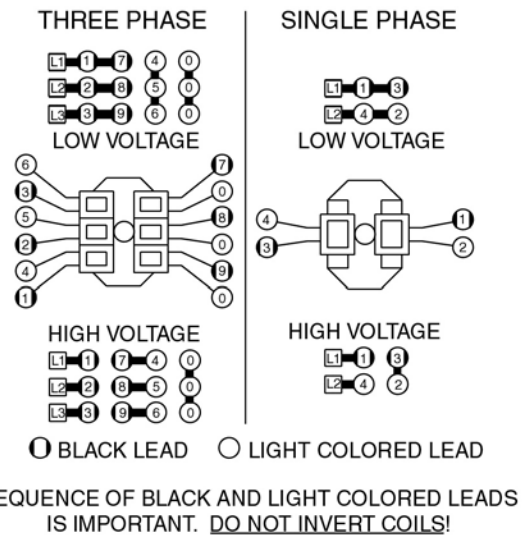
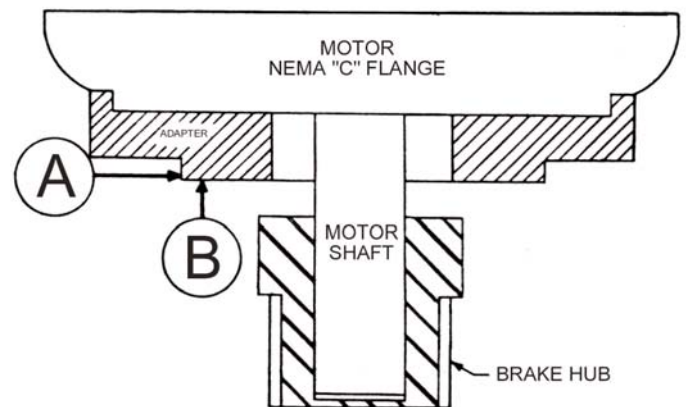

Figure 2. Wiring Connections
Figure 3. Adapter Installation
INSTALLATION OF BRAKE ON MOTOR ENDSHIELD (See Figures 2, 3 and Table 4)
1. Remove hub (14) from brake and mount hub with key (not supplied by Dings) on motor shaft per dimension "BC" shown in Figure 2. Be sure that hub used is item supplied by Dings for hazardous location applications. Tighten both set screws to 8-10 lb. ft. torque.
2. Remove four cover bolts (21) and tap cover with soft mallet. Remove cover (1). Do not operate the manual release (17) until brake is installed.
3. Inspect motor "C" flange and remove any nicks or burrs. This will assure a precision fit of brake to motor flange. Slide brake over hub (14), engaging teeth of rotating disc (10) and hub.
4. Install four mounting bolts (15) and tighten. Install four locking set screws (16) and tighten to 40 lb. ft. torque. This seals flame path around mounting bolts. Check rotation of hub to make certain it does not rub in bracket (13). Diametrical clearance or hub outside diameter to bracket bore shall not exceed .024".
5. Connect brake leads to power as shown in Figure 3. All wiring should be positioned to prevent pinching or chafing and all connections well taped to prevent grounding.
6. Replace cover (1). This may be done more easily by threading a 3/8" dia. by 5" long stud (threaded one end 3/8-16NC) into one cover bolt hole in magnet plate assembly (3) as guide. Slide cover into position using stud as a guide and tap with soft mallet until cover seats. Use care in assembly. Insert 3 cover bolts (21) and finger tighten. Remove guide stud and insert fourth cover bolt. Draw up all bolts evenly and tighten until spring washer (22) is fully compressed. A loose or missing bolt will render the brake unsafe for operation in hazardous locations.
8. Check alignment of adapter. Clamp dial indicator to brake hub (position A) and measure pilot eccentricity. This must not exceed .006" total indicator reading for a full revolution of hub. Reposition dial indicator (position B) and check adapter face runout which must not exceed .006" total indicator reading a full revolution of the shaft. Remove hub (14) from brake and mount hub with key (not supplied by Dings) on motor shaft per dimension shown in Figure 2. Tighten both setscrews to 8-10 lb. ft. torque. Complete mounting of brake per paragraphs 2 through 6.
WEAR ADJUSTMENT (See Figure 2 & Table 4)
(See Figure 2 & Table 4)
(See Figure 2)
15. Remove cover screws (21) and cover (1).
16. Remove pivot stud (32), reset spring (37), drive gear (31), drive spring (50), and driver (39). Unscrew release gear (34) and remove release bearing (35). Remove gap adjusting nut (2), reset spring (37) and drive spring (50).
17. Remove magnet plate (3). Take care not to bend control rod assembly (45).
18. Remove gap adjusting nut (4), torque nut (5), washer (6) and torque spring (7). Remove pressure plate (9). The friction discs (10) may now be replaced.
19. Reassemble brake. Replace pressure plate (9), torque spring (7), washer (6) and torque nut (5). Set spring length to dimension "D" (Fig. 2). Assembly gap adjusting nut (4) and magnet plate (3) taking care not to bend control rod assembly (46). Set magnet gap to dimension "A" (Fig. 2 and Table 4).
20. Install two release bearings (35) into recesses of magnet plate (3). Thread two release gears (34) onto release rods (33). Turn release gears (34) clockwise until snug but do not raise pressure plate (9). Make certain that release rods (33) are seated in the pressure plate recesses.
21. Insert lock spring (42) and lock pin (41) in the underside of the driver (39) and center the driver (39) on magnet plate (3) at same time engaging lock pin (41) in lock bushing (40).
22. Insert pivot stud (32) into drive gear (31) and driver (39). Line up marked teeth of release gears (34) and drive gear (31) and tighten pivot stud into magnet plate (3). Install drive spring (50) and reset spring (37). Check operation of manual release mechanism. Mount brake cover (See Paragraphs 2 to 6).
23. Alternate method of lining up release mechanism if markings not visible: Turn release gears (34) clockwise until both are tight and magnet gap is fully closed. Rotate release gears (34) counterclockwise from vertical centerline and center of brake 10 roots (valleys) of teeth. Drive gear (31) is to engage this tenth root the following number of teeth from top right and lower left edge of drive gear (31): 1 disc = 5, 2 disc = 6, 3 disc = 7, 4 disc = 8, and 5 disc = 9. Then continue per paragraph 23. Do not tamper with thermal release mechanism or control rod setting.
(See Figures 2, 3 & 6 and Table 3)
28. Replace coils. Sequence of black and yellow leads must be maintained (See Figure 3). Important: Shading coils must be replaced and held securely by staking in center of shading coil slot or by cementing with epoxy. Bend down end laminations to securely hold coils.